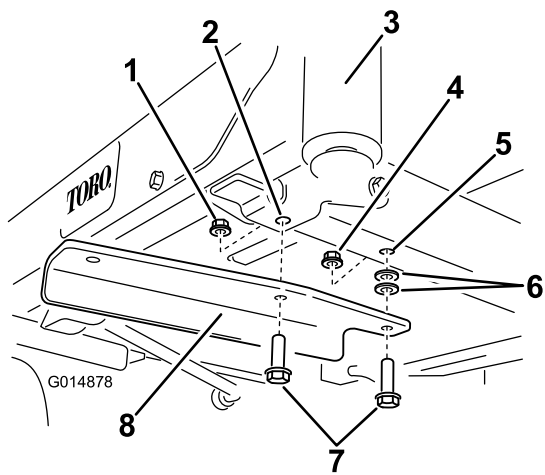

**Figure 4**
1. Locate the front bolts on the underside of the frame (Figure 3 and Figure 4).